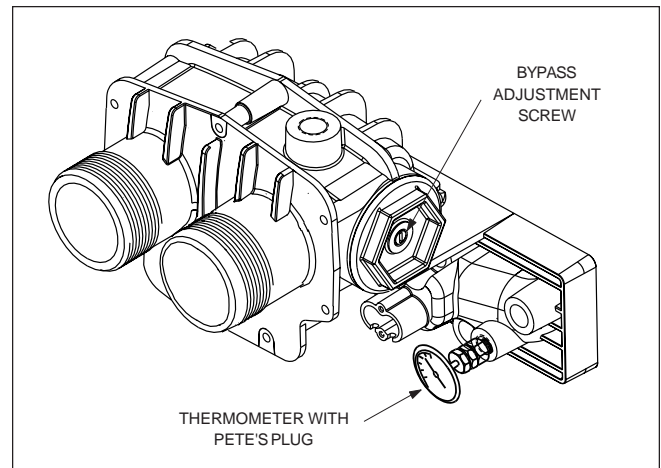

Figure 29. Temperature Rise Measurement
Before checking the temperature rise, make sure that the pool filter is clean and that gas supply and manifold pressures are correct. If necessary, clean all components of the filter system. Temperature rise is measured in the outlet of the far-right tubes when facing the inlet/outlet water heater. To measure the temperature rise, turn off the filter pump and remove the plastic plug to the right of, and just below the level of the outlet water pipe. This is mounted flush with the heater jacket (See Figure 29). With the plug removed, install the special thread adapter and "Pete's" plug fitting and insert a pocket thermometer. A temperature rise measurement kit is available through your Jandy distributor. See Section 11 of this manual for the correct kit number.
6. Locate the bypass adjustment screw on the right-hand side of the header (see Figure 29). Loosen the nut so that the screw can be adjusted. A slight water leak past the nut may be expected. Turn the screw counterclockwise to decrease the temperature rise, and clockwise to increase the temperature rise as needed to achieve the ranges in Table 7. After the adjustment, tighten the nut so that no leaks occur.